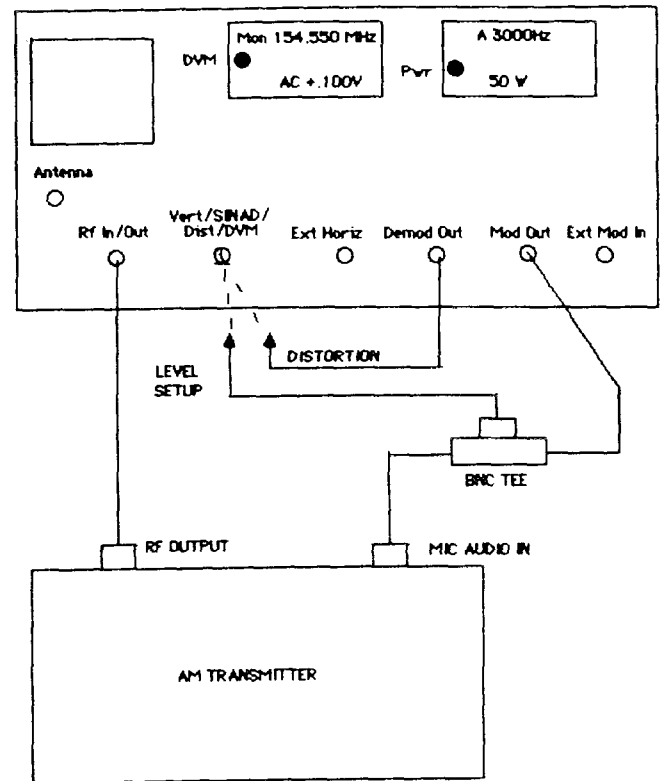

FIGURE 5.10 – AM MODULATION TEST SETUP
1. Connect the service monitor's "RF In/Out" to the output connector of the transmitter under test, as shown in figure 5.10. Set "Function" to "Pwr Mon", "AM". Observe caution in basic transmitter tests section.